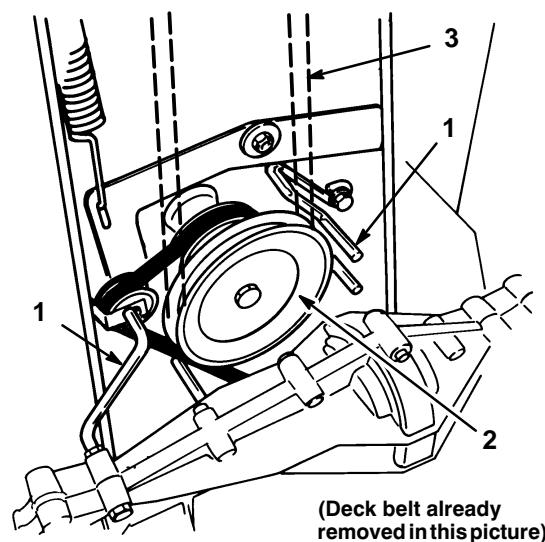

Figure 32
4. Loosen belt guides near engine pulley and rotate them out of the way. Remove deck belt from engine pulley (Fig. 32).
3. Loosen and remove (1) mounting screw securing each belt guide to cutting unit. Pivot belt guides away from spindle pulley and remove belt. Visually inspect belt for wear or damage (Fig. 32).
3. Remove deck belt from engine pulley (Fig. 32).